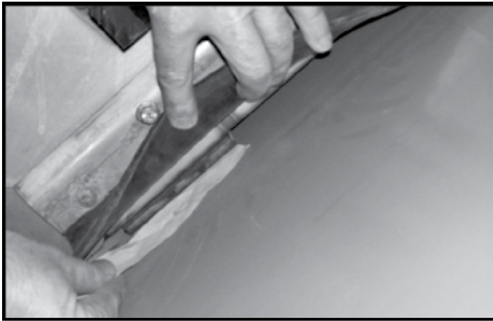

Figure 8A
6. Figures 8A-8B - There must be contact between front pads and main bin. Check for contact by trying to slide paper between pads and main bin. If no contact, adjust insert.